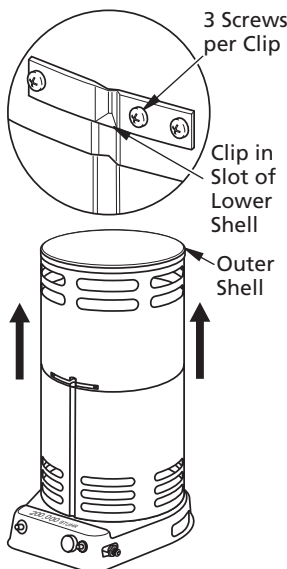

Figure 5 - Lifting Outer Shell
1. Care must be taken to protect hands during this step. Lift outer shell straight up as shown in Figure 5, until all three clips engage slots in lower shell. Screw holes will line up at this point.
2. Lock clips into place with 3 screws as shown in Figure 5. The heater must not be operated unless the outer shell is properly extended and fully locked into place.